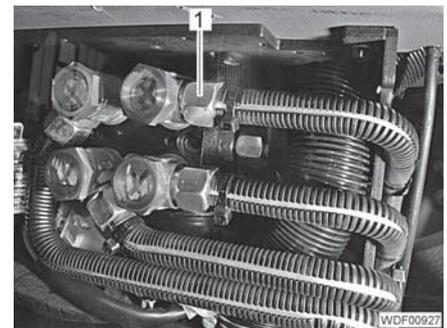

Fig. 127 Connections on the orbital steering valve
- Unscrew and close off the 5 hydraulic lines (Fig. 127,1).
- Screw and tighten the 5 hydraulic lines (Fig. 127,1) to the connections on the orbital steering valve.